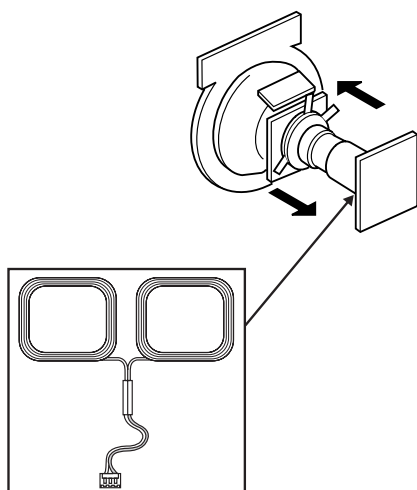

Fig. 2-1
3. Move the deflection yoke to the rear and adjust with purity control so that the green is at the center and the blue and the red take up equally sized areas on each side. (See Figures 2-1 through 2-4.)
4. Move the deflection yoke forward and adjust so that the entire screen is green. (See Figure 2-1.)